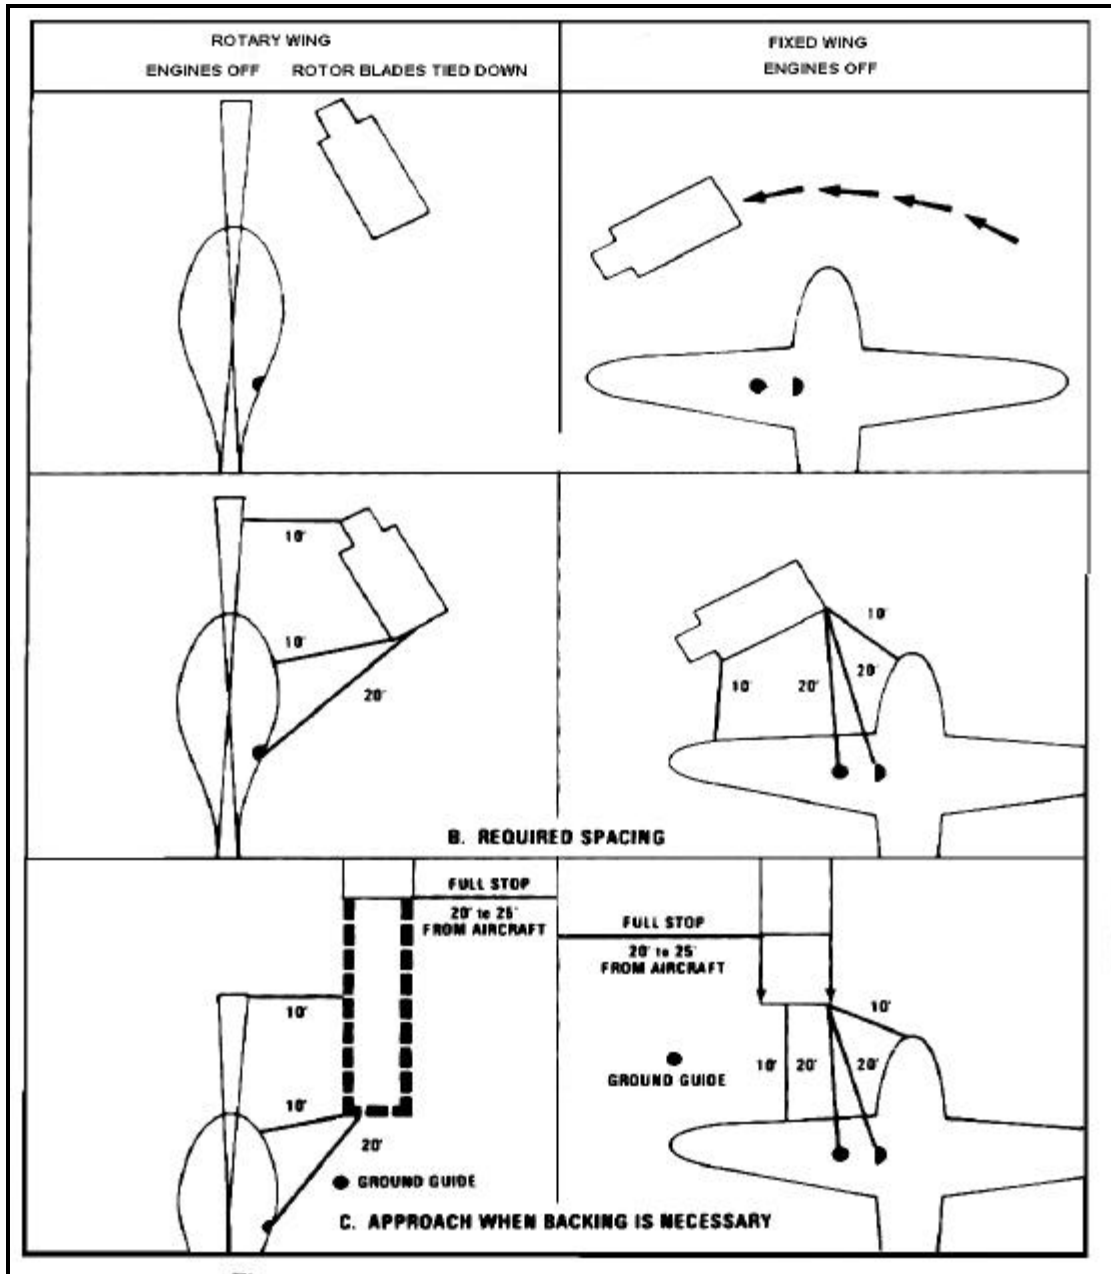

Figure 16-1. Positioning tank vehicle for refueling aircraft
Drive the tank vehicle into position in front of the aircraft. Use the approach route shown in A, Figure 16-1, page 16-5. Do not drive the refueler directly toward the aircraft because brake failure could cause a serious accident.
- Minimum distances. Keep a distance of at least 10 feet between the refueler and the aircraft. There must be at least 10 feet between the refueler and rotor blades of a helicopter. Keep a distance of at least 20 feet between the exhaust pipe of the pump engine (or truck engine) and the aircraft fill port and tank vent. See B, Figure 16-1 page 16-5.
- Ground guides. If the refueler can be driven into position without backing, do so. If the refueler must be backed toward the aircraft, bring the truck to a full stop 20 to 25 feet away from the aircraft or its rotor blades. Have another soldier act as a ground guide. Follow his signals to guide the final backing approach until he stops the refueler at the proper distance from the aircraft and its fill port or vent. See C, Figure 16-1.